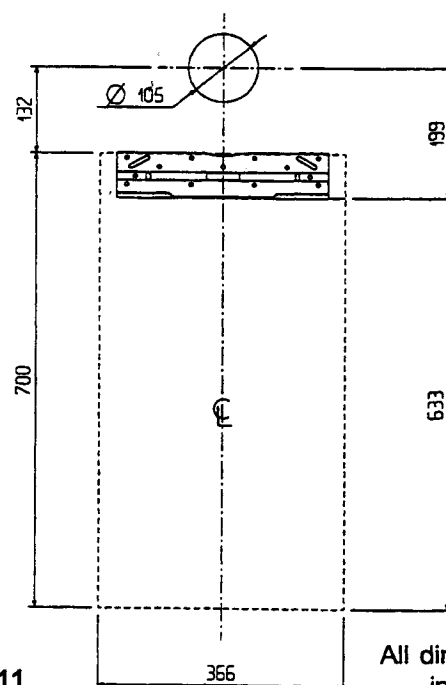

Fig. 11
5.4 MOUNTING THE APPLIANCE (Ref. Fig.11)
- 5.4.1 Place the template on a smooth, vertical, non-combustible surface and use it to locate the upper bracket, bottom fixing and flue pipe hole (concentric horizontal only). Alternatively, position bracket and holes to dimensions in Fig. 11.
Refer to fig. 11 and figs. 12 - 16 for relevant dimensions for locating the hole. Where it is remote from the boiler take special care to ensure the hole is at the correct level so that the finished flue is horizontal.